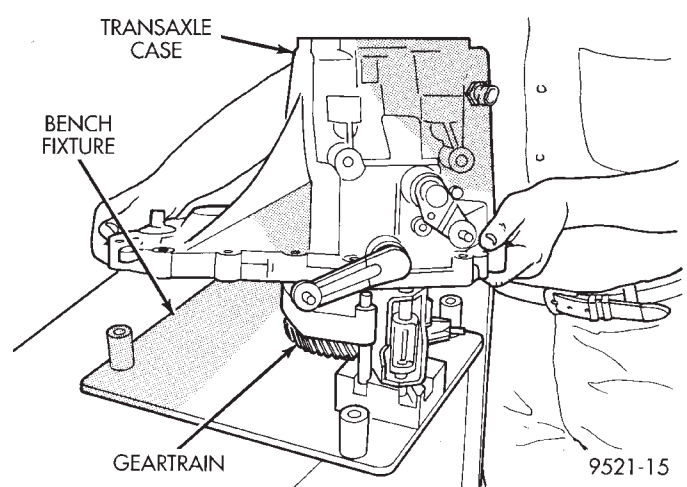

Fig. 74 Gear Case Half
(9) Install gear-case half over bench fixture (Fig. 74). Line up shift finger over 3-4 lug.